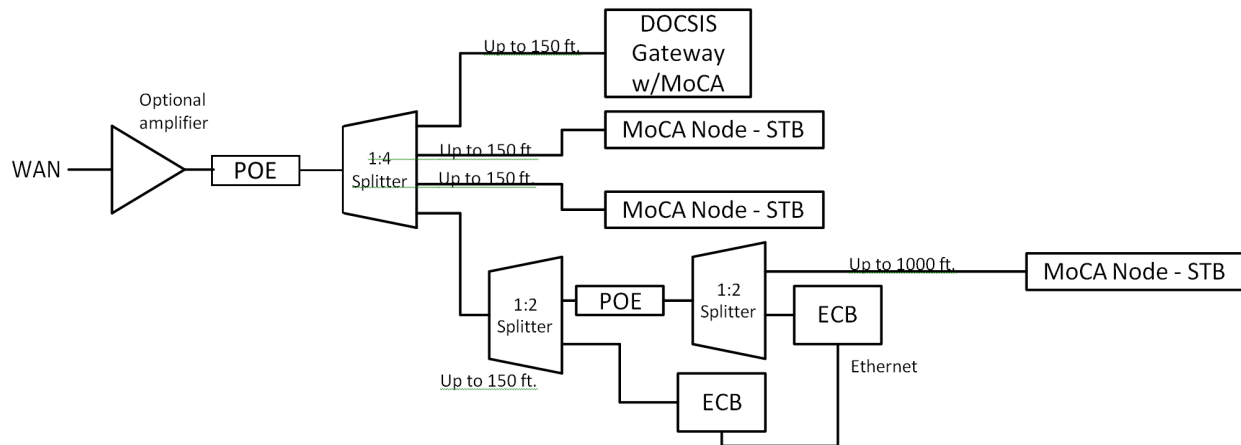

Figure 10 Long Cable Run with STB
- a. Ensure that any non-MoCA compatible RF amplifier is outside of the MoCA network (see Figure 10)
In the event that RF signals are required for STBs, then the diagram in Figure 10 shows the connection. This assumes that the MoCA Node does require non-MoCA RF signals, such as a STB that includes MoCA technology.